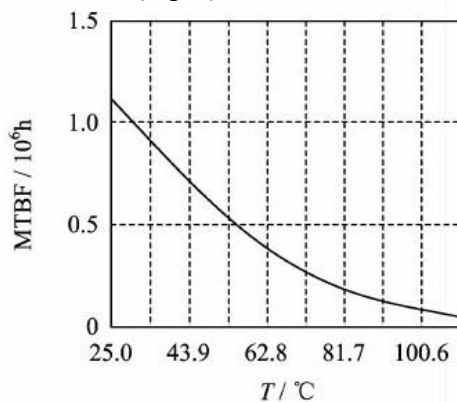

Fig. 4 MTBF-temperature curve
6. MTBF curve (Fig. 4)
7. Pin designation (Fig. 4, Table 4)